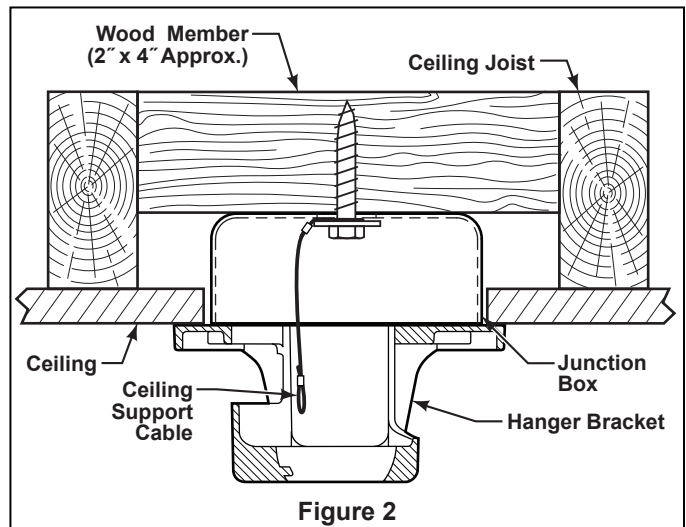

Figure 2
1. Using the  $\frac{3}{8}$ " x 2" lag bolt and flat washer, attach safety cable to ceiling joist or wood structural member. The lag bolt will pass through the flat washer, safety cable loop, the junction box and into the building structure (Figure 2). You will first drill a  $\frac{1}{4}$ " pilot hole into the building structure to prevent splitting or cracking.
**NOTE:** Ceiling support cable cannot be secured to junction box only, it must be directly secured to ceiling joist or structural member using the  $\frac{3}{8}$ " x 2" lag bolt and flat washer. (Figure 2).